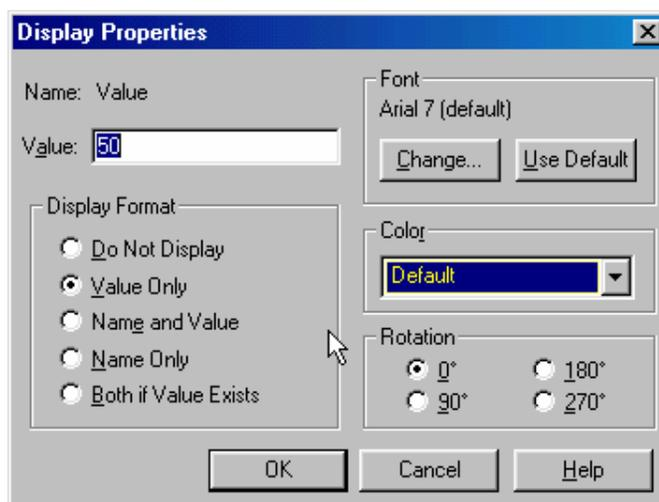

Figure C-7.
- To complete the schematic, we have to change the component values. Each resistor was given a name in the order it was placed on the diagram. Thus, your resistors may not have the same names as shown above. However, for simplicity, they will be referred to by the name shown here. To change R3 to 1Meg ohms, double click on the value  $1k$  and you should get the window shown in Figure C-7 with the name *Display Properties*. Change the  $1k$  to  $1MEG$ . If you find that the number is in a hard to read position on the circuit diagram, you can single click on it and then move it with the mouse. When you type the value in the *Display Properties* window, you must type  $1MEG$  with no spaces. Note that you have to type  $MEG$  since *PSpice* uses  $M$  to mean  $10^{-3}$  and  $MEG$  for  $10^6$ . It is not case sensitive. Note that in the schematic pictured, R1 and R2 are the resistors in your voltage divider and R3 represents the impedance of the scope. Since the scope impedance is  $1M$ , we set R3 to  $1MEG$ . R1 and R2 are  $1k$  ohms, you don't need to set them since they are already  $1K$  by default.